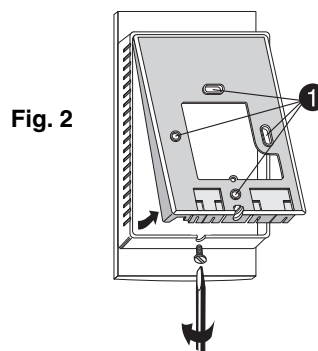

Fig. 2
First detach the terminal from its mounting plate, as shown in Fig. 2).
Then attach the mounting plate to a wall using the screws and anchor bolts or a flush-mount box (60 mm centre distance) using the holes ❶ (Fig. 2).